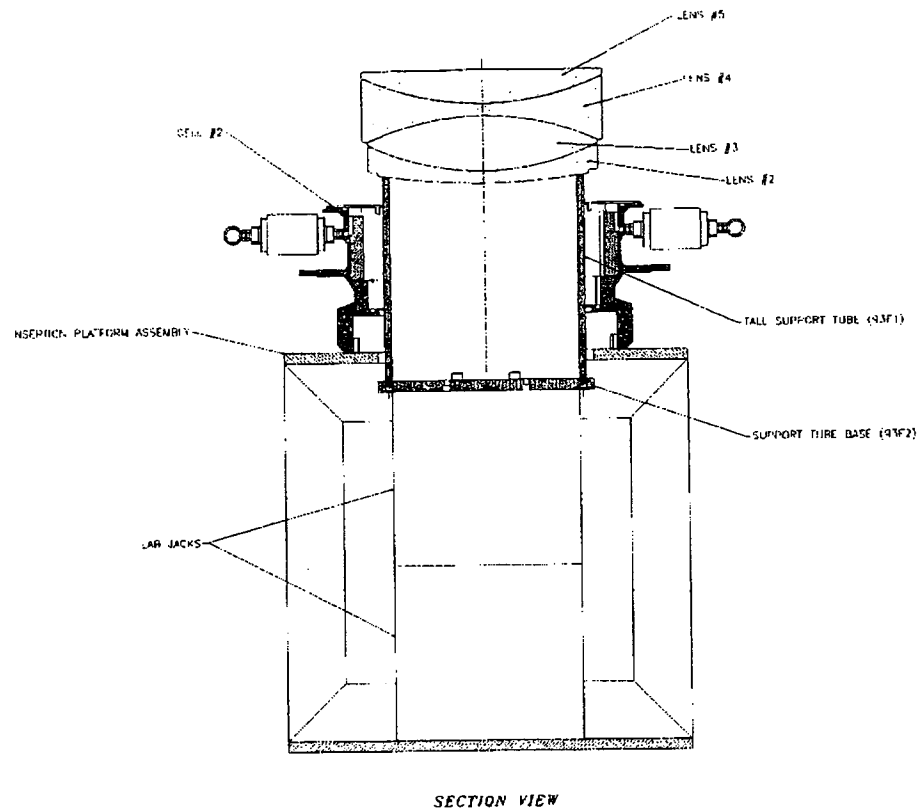

FIGURE 11: CELL #2 LENS INSTALLATION FIXTURE- SECTION
1. Continue using the tall support tube (93F1) attached to the support tube base (93F2) with six screws, as shown in figures 11 & 13. This assembly is bolted to the previously assembled lab jacks (from cell #4 assembly). Bolt the cell #2 insertion platform (93F6) to the vertical supports, as was used for the cell #3 assembly.
2. Place the pre-assembled cell #2 down on the insertion platform, with the tall tube protruding through the insertion platform centered in the center of the cell, as shown in Figure 11.
3. Raise the support tube with the jacks so that it extends out the top of the cell, as shown in figure 11.
5. Place lens #2 on the tall delrin support tube (#93F1) with R4 up, as shown in Figure 11. Refer to Optical Layout drawing #0A in Appendix B to identify surface R4.
7. Slowly place lens #3 down onto lens #2 by gloved hand until lens #3 comes to rest on the three axial spacer pads (see figure 11). Make certain that R5 is down towards R4.
10. Slowly lower lens #4, with surface R7 facing down, onto lens #3 until lens #4 comes to rest on the three axial spacer pads (see figure 11). A second person should stabilize lenses #2 & #3 on the tube as lens #4 is lowered into place. Refer to Optical Layout drawing #0A in Appendix B to identify surface R7.
13. Slowly place lens #5 down onto lens #4 by gloved hand until lens #5 comes to rest on the three axial spacer pads (see figure 11). The previously coupled lenses should be stabilized on the tube while lens #5 is lowered.